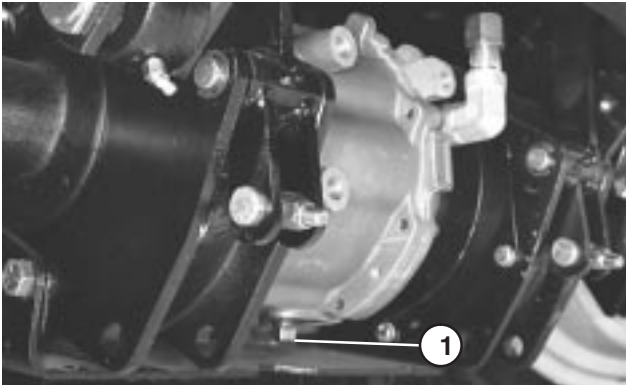

Figure 43
(Fig. 43)
2. Clean area around the drain plug (Fig. 43).